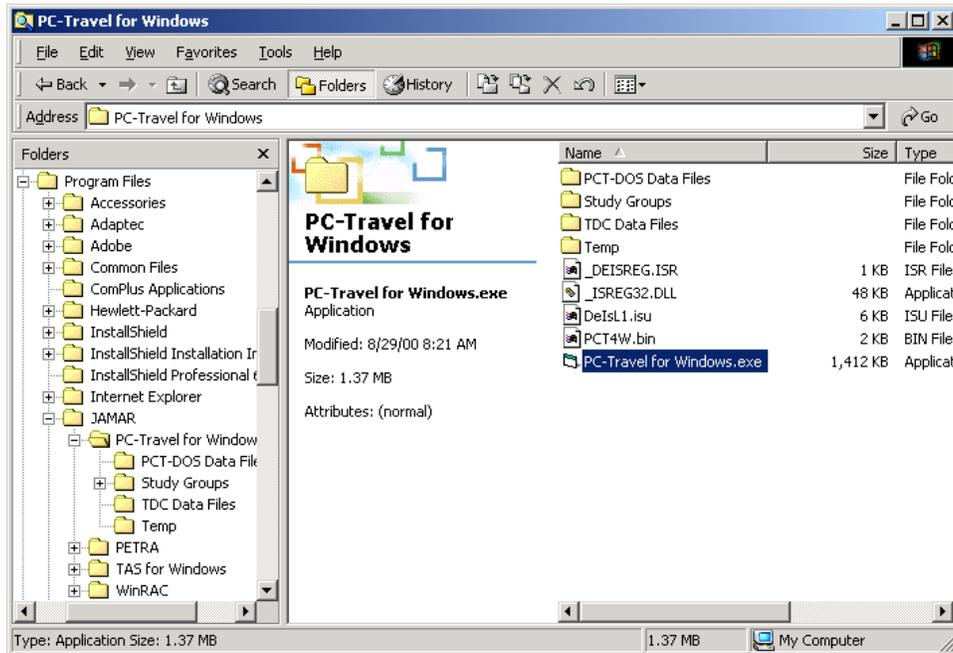

Figure 2.5 — Explorer View
1) Open an Explorer window (right click on My Computer and select Explore) and find the PC-Travel for Windows.exe file, which probably is in the *C:\Program Files\JAMAR\PC-Travel for Windows* folder. You will see a screen that looks something like figure 2.5 shown below. Double click on the file **PC-Travel for Windows.exe** and the program will run.